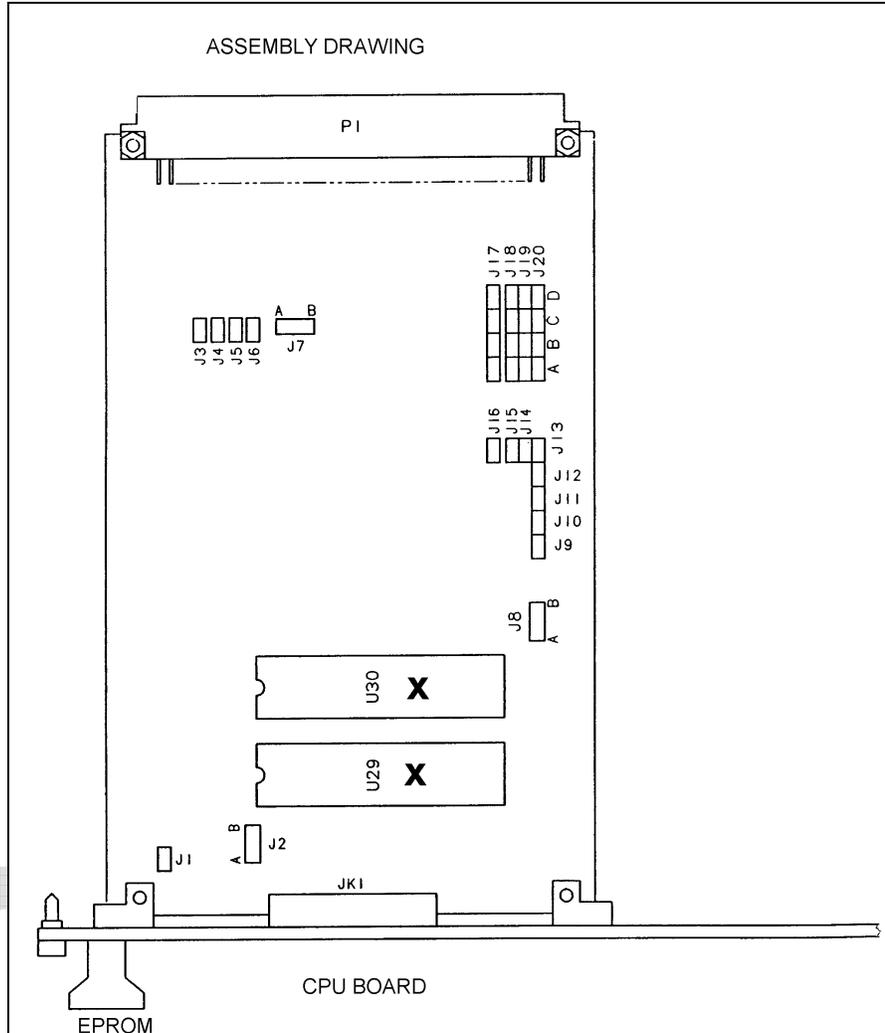

Figure A-7: DCP CPU Board Sockets
11. Ensure that the EPROMs are installed with pin 1 (as identified by the notch in the top of IC) oriented toward board connectors J1 and J2 as shown in Figure A-7.